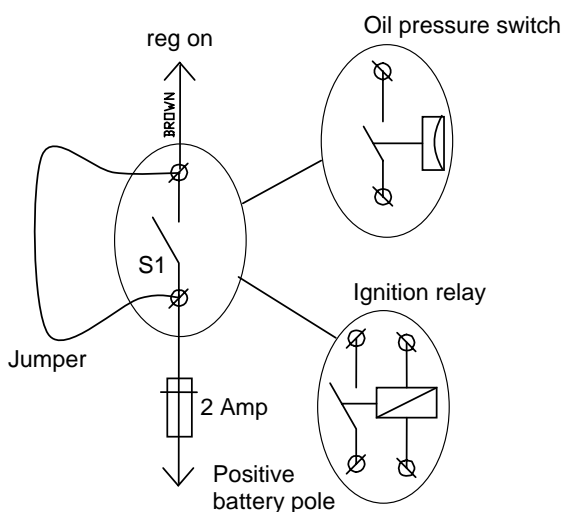

Figure 13: Jumper across switch S1
- 3 Energize the [reg on] terminal by either turning on the ignition switch (DO NOT START THE ENGINE) or by putting a jumper across switch S1 (see figure 13) Check whether the 3 green LED's start to blink. After approx. 10 seconds the green bulk led will illuminate.